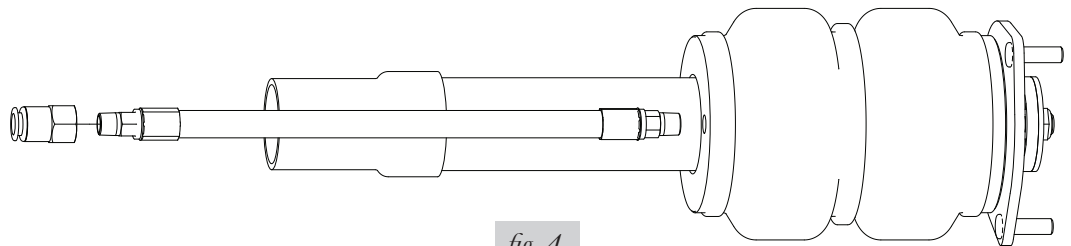

fig. 4
2. Install braided hose (B) into the lower end-cap of the airspring with thread sealant or Teflon tape applied to the threads of the fitting. Tighten finger tight and torque fitting 1-3/4 turns beyond hand tight. Attach the fitting (C or D) to the braided line with thread sealant (fig. 4).